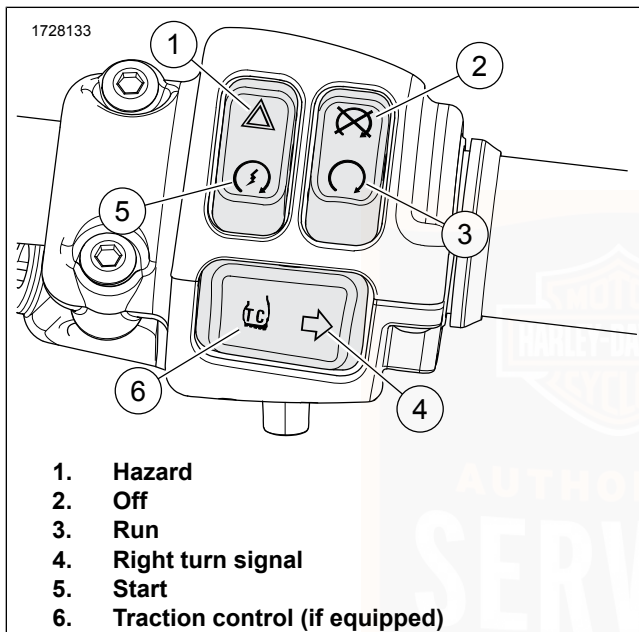

Figure 32. Right Hand Control Switches
See Figure 32. The hazard switch (1) is used to leave a stranded motorcycle in the 4-way flashing mode. With the flashers, the motorcycle can be left with the ignition off until assistance is found. Refer to Table 35.
See Figure 32. The start switch (5) is on the right handlebar control module. Refer to Table 35.
1. Switch the OFF/RUN switch to the run position (3). Shift the transmission to neutral. The neutral (green) indicator illuminates. See Operation > Starting the Engine (Page 96).
2. Press the start switch (5) to operate the starter motor.
See Figure 32. Press the engine OFF/RUN switch to off (2) to shut off the engine. Refer to Table 35.
See Figure 32. Push the engine OFF/RUN switch to run (3) to enable engine start and run. The engine OFF/RUN switch must be in the run position to start or operate the engine. Refer to Table 35.
See Figure 32. Press the right turn signal switch (4) to activate the right turn signal. Refer to Table 35.
See Figure 32. The traction control switch activates and deactivates the traction control system on equipped vehicles. Refer to Table 35.